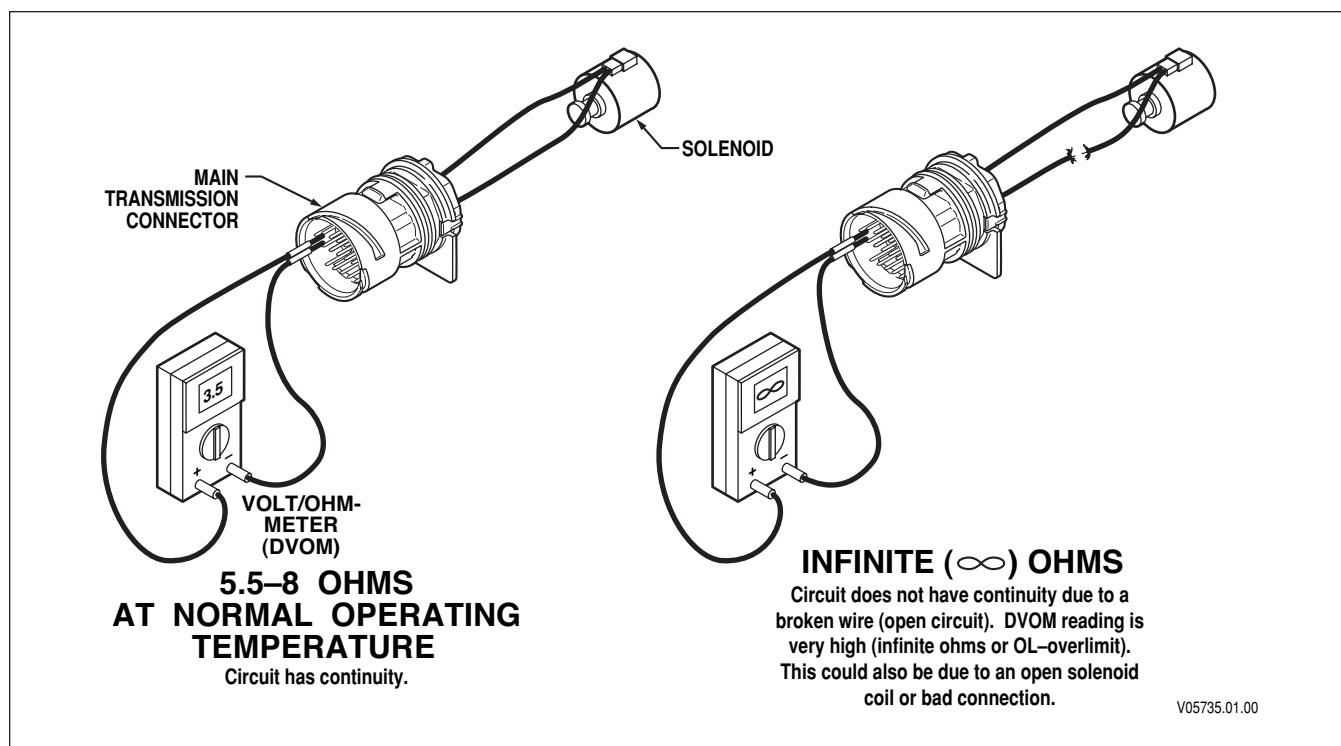

Figure 4–3. Checking Continuity (Internal Harness)
- b. If the resistance check is good, check the harness for shorts between wires and to ground by performing the following (refer to Figure 4–4):
- (1) At the transmission connector, touch one probe of the DVOM to one wire of the circuit being tested and touch the other probe to each terminal in the connector and to chassis ground and the transmission main housing. Do this for both wires in the circuit being tested.